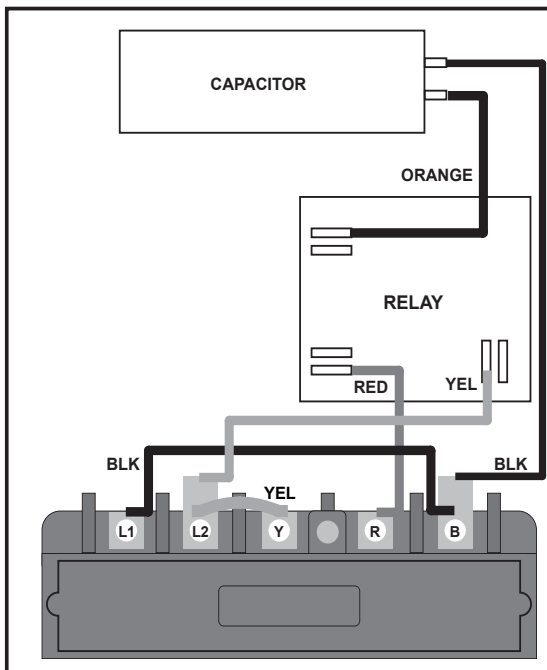

FIGURE NO. 1: CONTROL BOX WITHOUT PUMPSAVER® INSTALLED
2. Remove the *yellow* wire from the terminal strip at L2 and remove the black wire from L1 (see Figure No. 1).